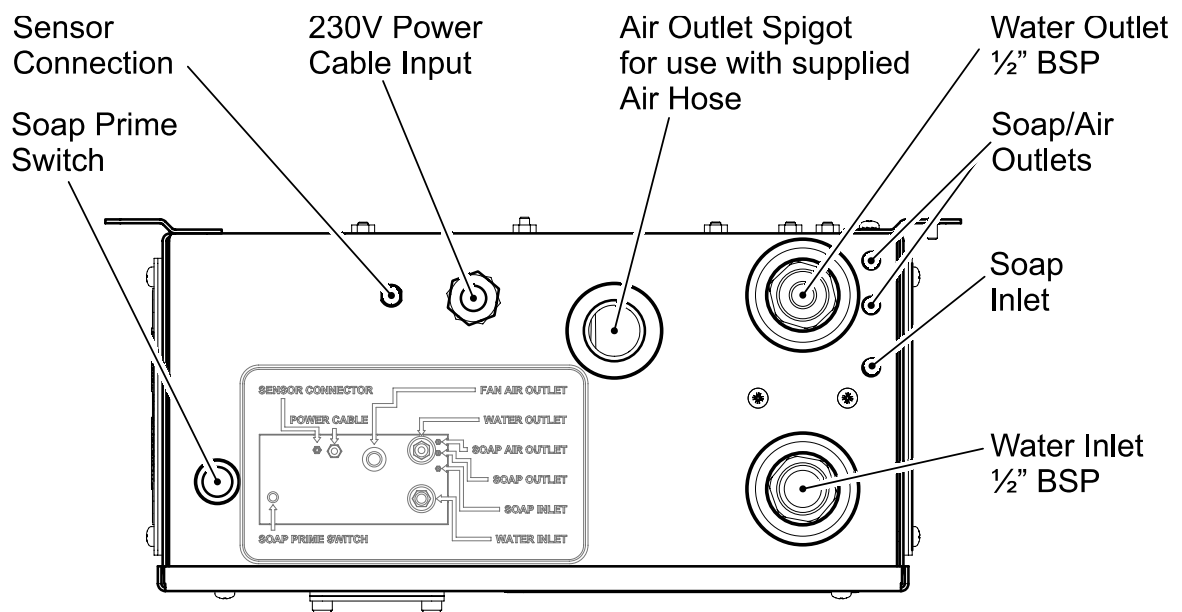

Figure 11: Control Module I/O arrangement.
1. First connect air hose to tap. Ensure jubilee clips are positioned roughly 15mm from each end of air hose. Push one end of air hose over black air hose spigot protruding from bottom of tap head. Then push the other end over the “air outlet spigot” on the module (see fig 11 for reference).
5. Take 2x soap hoses from bottom of tap head and push over “soap and air outlets” indicated in fig 11. Use 2x cable ties to secure soap tube onto outlet spigots.
1. To connect the control module to the water supply simply screw on a ½" BSP connector to the "water inlet" detailed in fig 11.